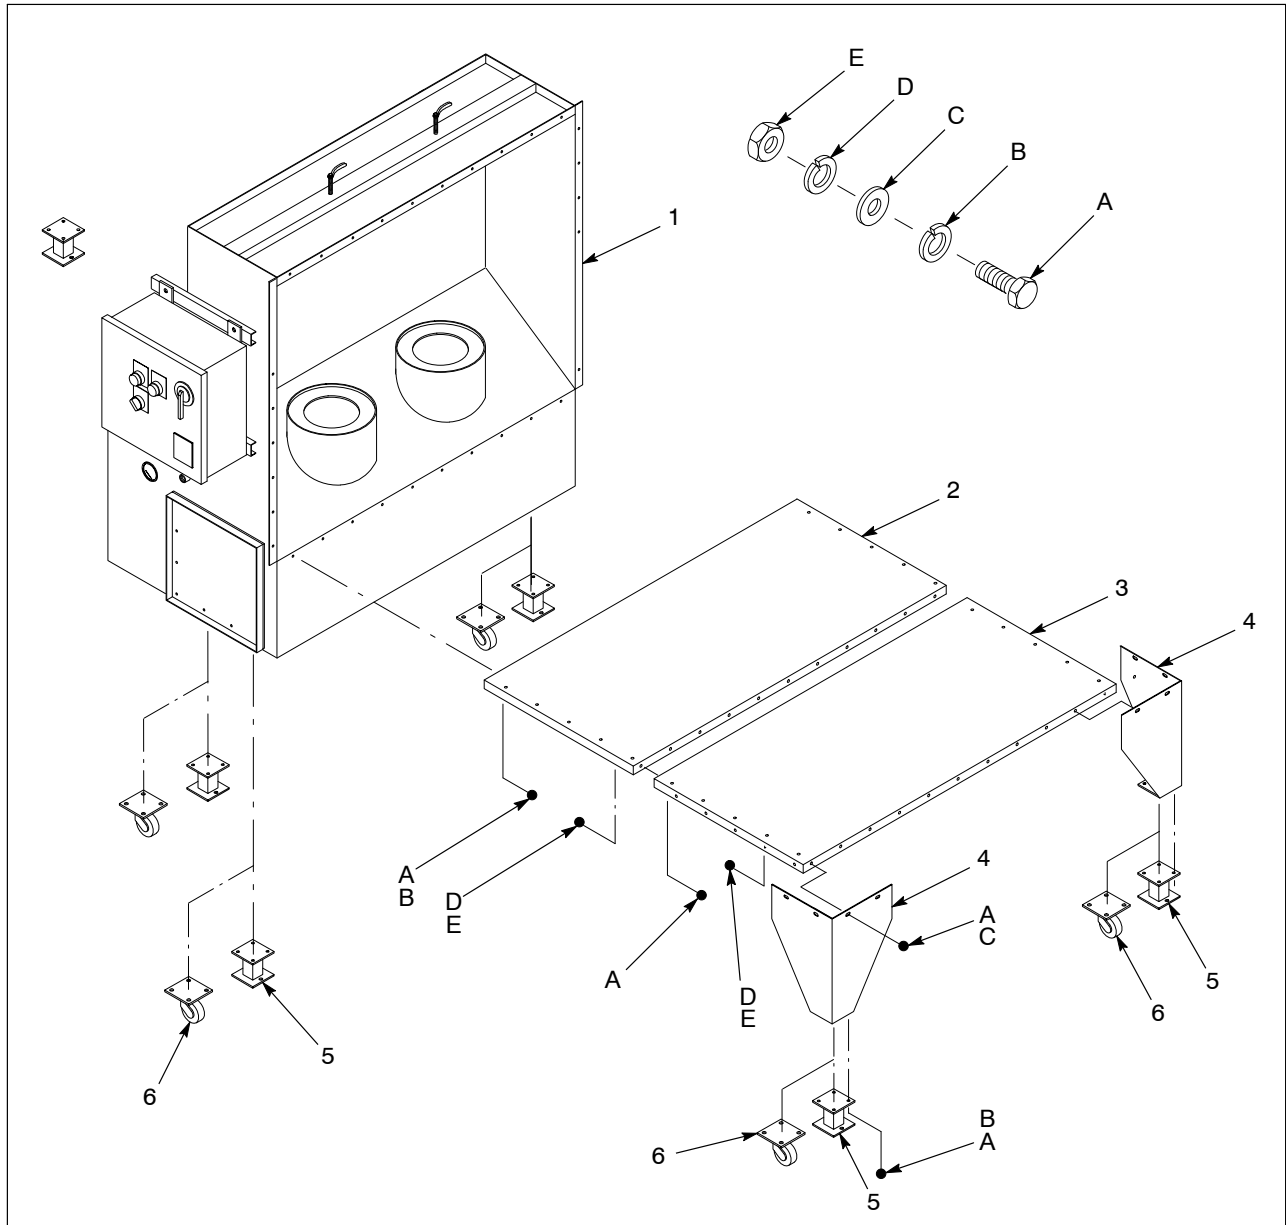

Figure 3-1 Floor Assembly
3. See Figure 3-1. Locate the 3 extension legs (5) or casters (6) and 12 $\frac{3}{8}$ -16 x 1 in. hex bolts (A) and lock washers (B, D).
4. Cut the metal bands holding the collector module (1) to the pallet. Secure the extension legs or casters to the bottom of the collector module as shown in Figure 3-1.
- b. See Figure 3-1. $\frac{3}{8}$ -16 steel hex bolts (A), nuts (E), flat washers (C), and lock washers (B, D) to join steel panels and to secure enclosure legs to floor panels.
- c. $\frac{3}{8}$ -16 steel hex bolts (A) and lock washers (B) to secure the extension legs or casters to the enclosure legs.
1. See Figure 3-1. Use the fasteners shown to bolt the leg extensions (5) or casters (6) to the legs (4).
2. Bolt the floor panel (2) to the floor panel (3).
3. Bolt the legs (4) to the floor panel (3).
4. Bolt the floor panel (2) to the collector module (1).